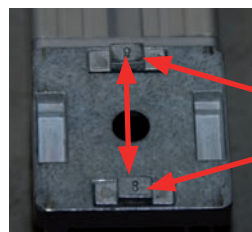
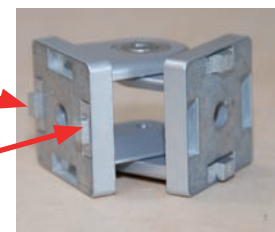
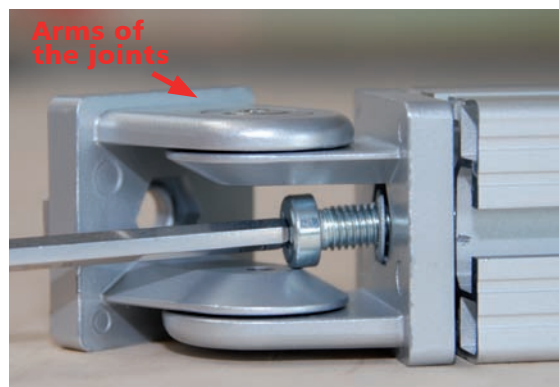

fig. 3.1-12
fig. 3.1-13
fig. 3.1-14
It is very important to insert the adjusting blocks into the holes at the sides where the arms of the joints are located and that the number 8 on top of the adjusting blocks points outwards. (**fig. 3.1-12 and fig. 3.1-13**). You will find that the adjusting blocks marked with number 8 will fit exactly into the lead channels. Now position the joints at the ends of the angles braces and bolt them together using the four (4) socket head screws **M8x25**, the washers and the corresponding Allen key. (**Abb. 3.1-14**).